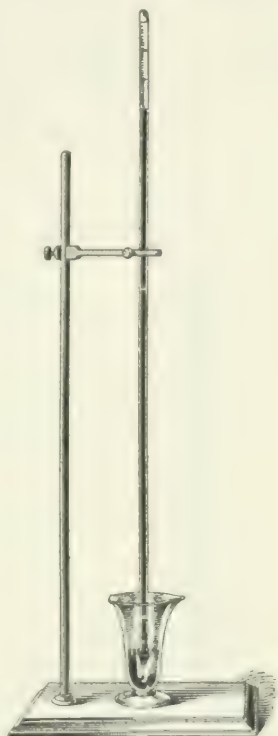

FIG. 15.
43. Since air has weight, it is evident that the enormous quantity of air that constitutes the atmosphere must exert a considerable pressure on the earth. This is easily proved by taking a long glass tube closed at one end and filling it with mercury. If the finger be placed over the open end so as to keep the mercury from running out and the tube inverted and placed in a cup of mercury, as shown in Fig. 15, the mercury will fall, then rise, and after a few oscillations will come to rest at a height above the top of the mercury in the cup equal to about 30 inches at sea level.
48. If the tube of Fig. 15 had been filled with a liquid lighter than mercury, the height of the column required to balance the atmospheric pressure would be greater. The
49. The Barometer.—As is well known, the atmosphere does not exert exactly the same pressure at all times; the pressure varies with conditions. As the height of the mercury in the glass tube of Fig. 15 depends chiefly on the atmospheric pressure, it is evident that an instrument constructed on this principle will indicate the varying pressure by the height of the column. Such an instrument is called a **mercurial barometer**.
55. Tension of Gases.—In Fig. 15, the space above the column of mercury was said to be a vacuum, and it was also stated that if any gas or air were present, it would expand and its tension would force the column of mercury downwards. If sufficient gas be admitted to cause the mercury to stand at 15 inches, the tension of the gas is evidently $\frac{14.7}{2} = 7.35$ pounds per square inch, since the pressure of the outside air, 14.7 pounds per square inch, now balances only 15 instead of 30 inches of mercury; that is, it balances only one-half as much as it would if there were no gas in the tube; therefore, the pressure (tension) of the gas in the tube is 7.35 pounds. If more gas be forced into the tube until the top of the mercurial column is just level with the mercury in the cup, the gas in the tube will then have a tension equal to the outside pressure of the atmosphere. Suppose that the bottom of the tube is fitted with a piston, and that the total length of the inside of the tube is 36 inches. If the piston be shoved upwards so that the space occupied by the gas is 18 inches long instead of 36 inches, the temperature remaining the same as before, it will be found that the tension of the gas within the tube is 29.4 pounds. It will be noticed that the volume occupied by the gas is only half that in the tube before the piston was moved, while the pressure is twice as great, since $14.7 \times 2 = 29.4$ pounds. If the piston be shoved up, so that the space occupied by the gas is only 9 inches instead of 18 inches, the temperature still remaining the same, the pressure will be found to be 58.8 pounds per square inch. The volume has again been reduced one-half and the pressure increased twofold, since $29.4 \times 2 = 58.8$ pounds. The space now occupied by the gas is 9 inches long, whereas,